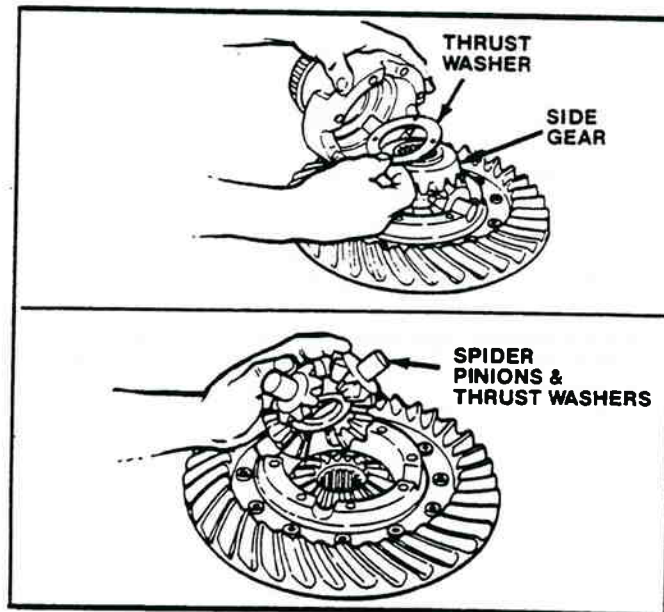

Figure 2-18. Disassembling Differential.
4. Remove the differential spider (cross), four pinion gears, two side gears and six thrust washers from inside the case halves (Figure 2-18).